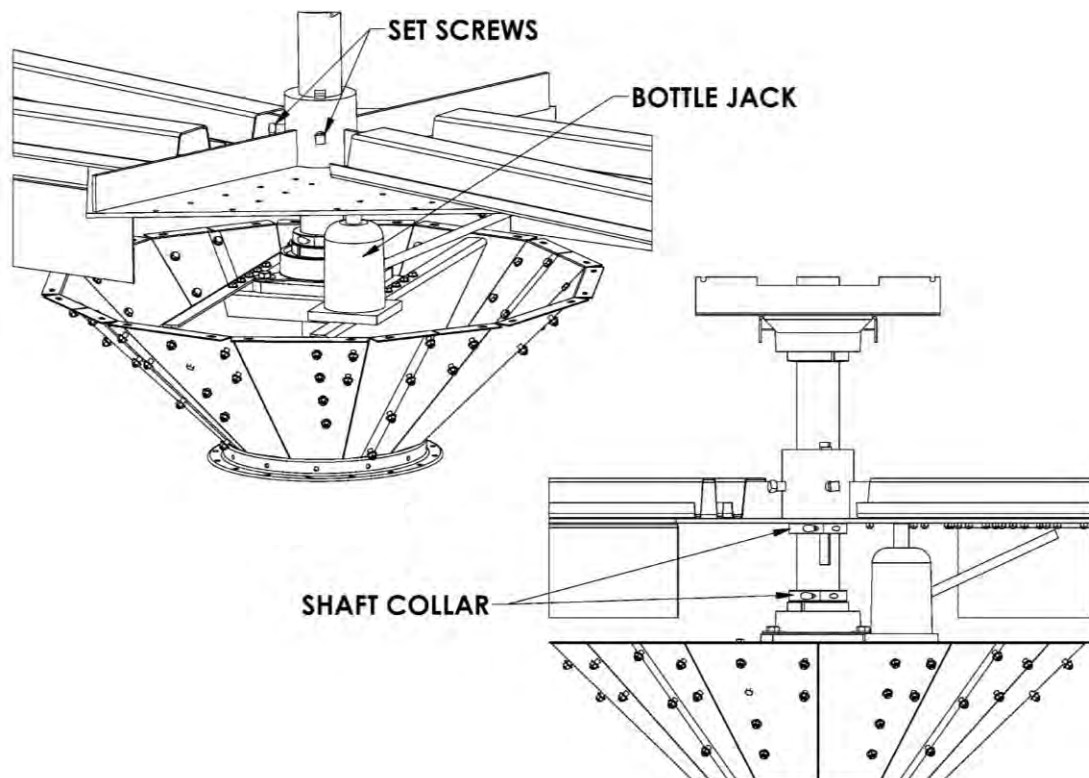

Fig. 4 – Securing rotor height with shaft collars
3. **Set height of rotor on shaft.** Scraper blades should be as close to grain floor as possible without touching it. Make sure all washers/spacers are removed between drive hub and main arms. Raise (or lower) drive hub until scraper blades are just higher than highest point of grain floor. To raise rotor, loosen setscrews on drive hub and use a bottle jack between drive hub and lower bearing support plate. See Fig. 4. Two jacks may be needed if hub binds on shaft.
After drive hub is raised up on shaft, tighten setscrews and position two shaft collars between bottom of drive hub and top of lower bearing as shown in Fig. 4. This keeps shaft and drive hub from slipping down.